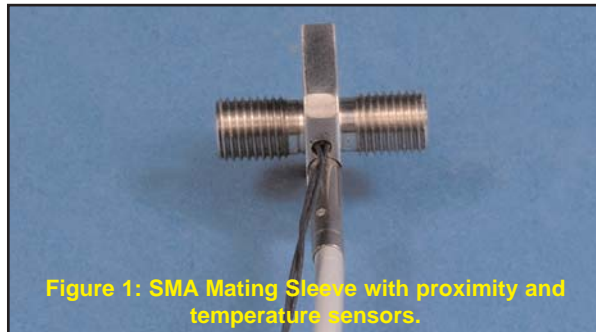

Figure 1: SMA Mating Sleeve with proximity and temperature sensors.
1. A customer is using FC or SMA mating sleeve to butt-couple 2 high power multimode fibers terminated with appropriate connectors. An inductive proximity sensor that is installed at the appropriate point in the FC or SMA mating sleeve will be able to detect the presence or absence of a connector metal ferrule. Thus, in case an operator unwittingly removes one of the high power fiber patchcords by unscrewing the FC or SMA connector, the inductive proximity sensor signal can be used by the customer to trigger a safety interlock or shut down of the laser. In addition, if a thermocouple or a thermistor has also been installed in the mating sleeve, and there has been some damage to one of the connectorized fiber endfaces that is causing light to reflect into the mating sleeve leading to local temperature rise, the signals from the thermistor or the thermocouple can be used to alert the operator and/or initiate a safety interlock at the laser or laser shut down. Figures 1 and 2 show SMA and FC mating sleeves in which both the inductive proximity and temperature sensors have been installed.
- FC and SMA Sleeve-through adaptors (mating sleeves) for multimode fiber to fiber coupling situations- See Figures 1 and 2